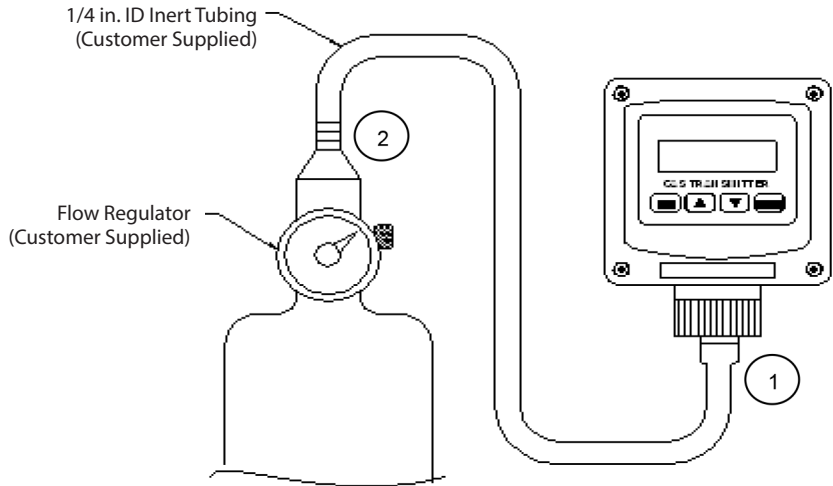

Figure 43: Sensor Zero Cal setup
Referring to *Figure 43*, slip the calibration adapter onto the exposed end of the sensor and connect one end of the tubing (1). Connect the other end of tubing to the cylinder’s regulator (2). Do not open the gas valve until instructed.